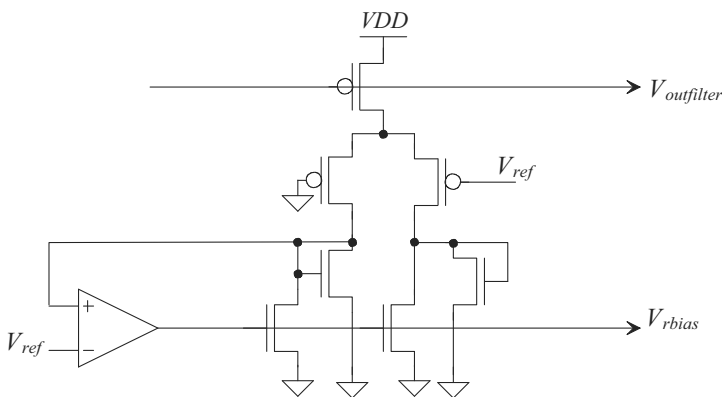

Figure 19.78 Using a full-replica of the delay element for generating V_{rbias} .
- 19.24** Suppose, as seen in Fig. 19.78, that instead of using a half-replica of the delay cell in Fig. 19.58, the full delay cell is used to generate V_{rbias} . Electrically is there any difference in V_{rbias} when comparing the full- and half-replica circuits? What may be the benefit of using a full-replica of the delay cell?